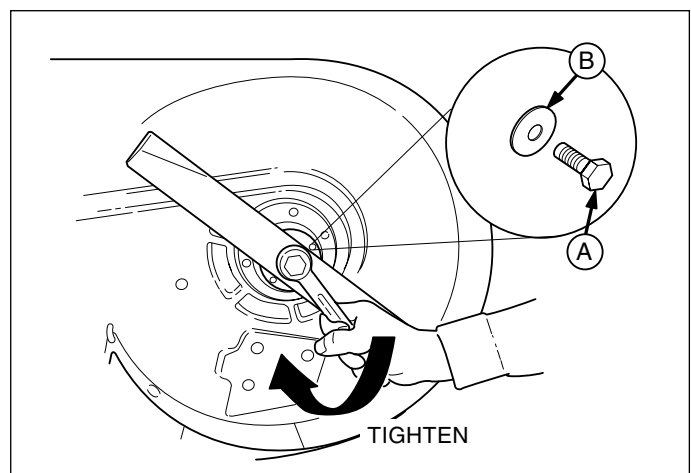

Figure 9. Installing The Blade
6. Reinstall each blade with the tabs pointing up toward deck as shown in Figure 9. The blade spacers, blade, washer and bolt must be reinstalled in the exact same order in which they were removed. Torque bolts to 70-90 ft.lbs. (94-120 N.m.).